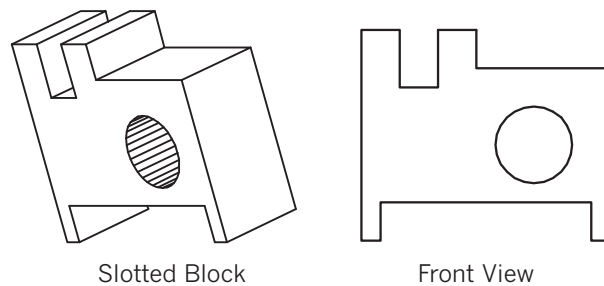

Fig. 12-10
5. Draw three views of the slotted block shown in Fig. 12-10. Start by drawing the front view using the **LINE** and **CIRCLE** commands. Do not worry about drawing the object exactly. Make the task easier by using ortho.